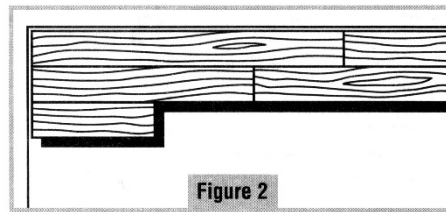

Figure 2
2. Lay the second row starting in the left corner with a plank cut 2/3 the length or about 32" (Fig.2). Place the cut end against the wall. The piece you cut can be used at the other end of the row if the layout permits. Remove the paper liner from the installed plank in the first row and place it in the trash. Lay the plank by holding one end up while slowly positioning the other end and edge into the adhesive strip against the previous laid planks to achieve a tight joint. Do not slide planks together. If adjustments are required, lift the plank off the adhesive strip and reposition it. Complete the second row including the cut piece at the end of the row. Use a hand roller to secure the plank in the adhesive strip and level the joints. Pressure is the key.
3. Start the third row with a plank cut to 1/3 the length; about 16" (Fig.2). Thereafter, maintain a random layout with end joints staggered by at least 8". Always put the cut end against the wall. Plan the layout to avoid using small pieces (less than 6") at the ends of the row.